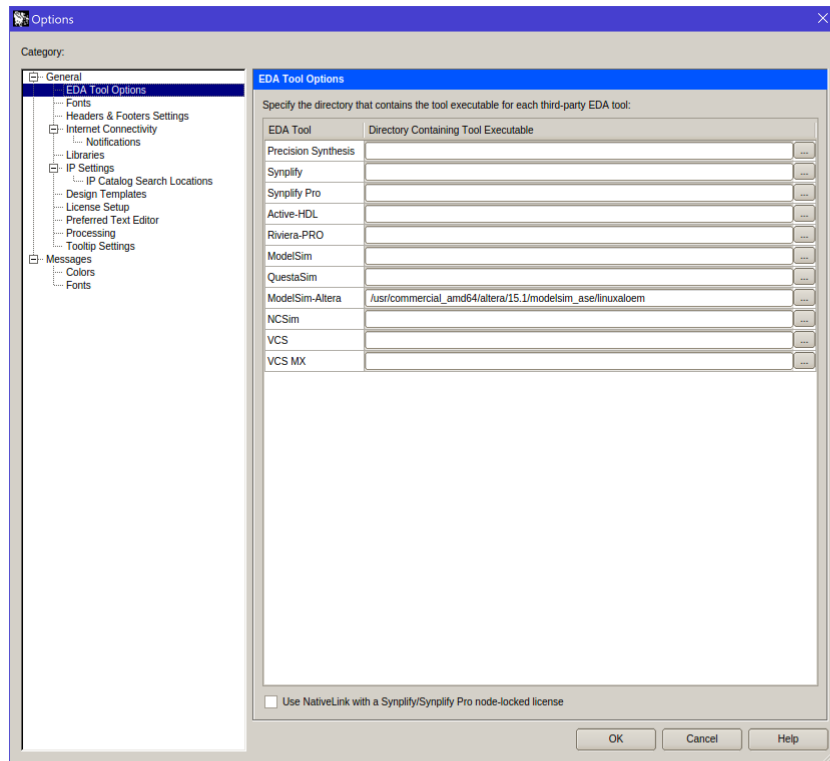

Figure 12: EDA Tool Option Window.
2. Once installed, you need to inform Quartus where ModelSim is installed. To do this, select **Tools-Options** and then select **EDA Tool Options** to get the window shown in figure 12. Select the 3 dots icon next to ModelSim-Altera and select the installation location for ModelSim-Altera Starter Edition.
- For Linux, you will select a path very similar to that shown in figure 12. The only difference will be the install path you selected during the install.